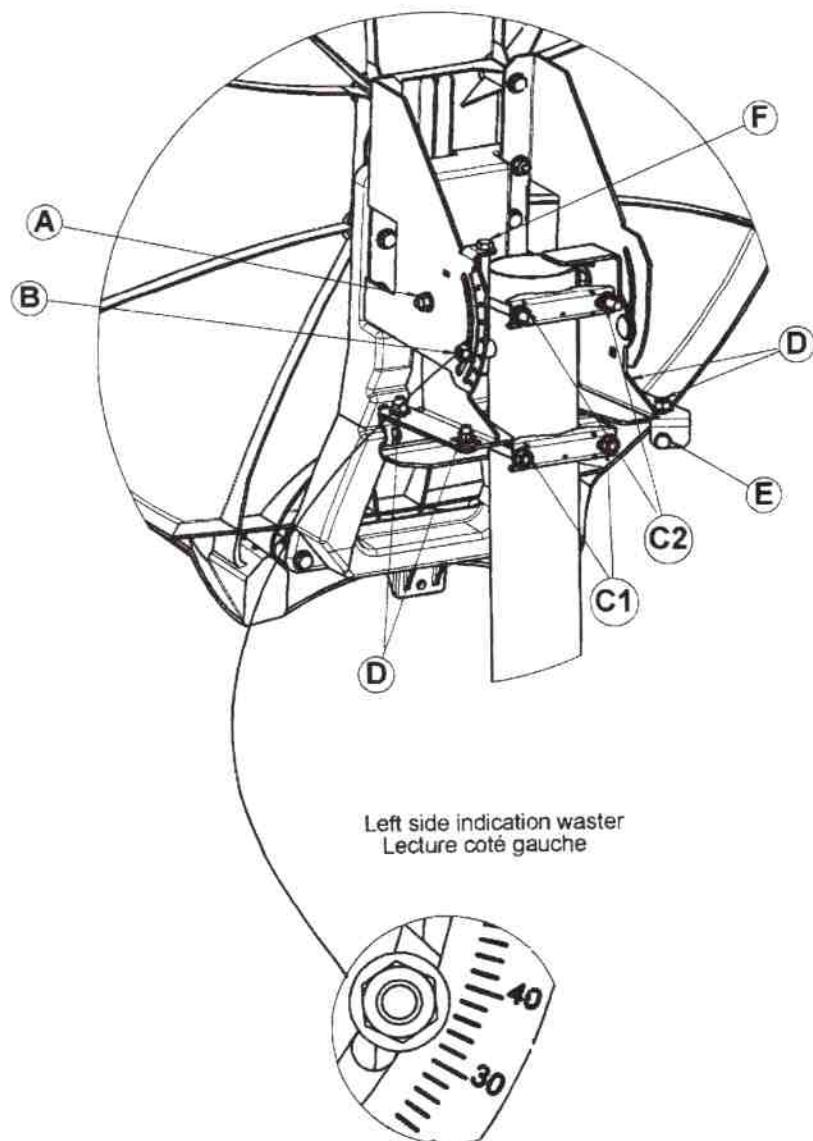

Fig 7
En actionnant la vis F, amener la graduation correspondant à l'élévation recherchée face au centre de l'écrou B puis resserrer modérément les 4 écrous A et B comme indiqué Fig 7.
Actuate screw F in order to move the antenna elevation upwards so that one reaches the elevation marking as indicated by the center of the nut B and tighten the 4 screws as shown in **figure 7**.
- Débloquer les écrous **C1** (bride inférieure) et **C2** (bride supérieure) pour faire tourner l'ensemble autour du mât. (**Cf Fig 7**)
- **Unlock the 4 screws C1 (lower clamp) and C2 (higher clamp) in order to move in azimuth the whole antenna around the mounting pipe.(refer to Fig 7)**
Ces réglages sont accessibles sur la monture Az / El comme le montre la Figure 7.
*To complete the antenna alignment procedure, you need to, alternatingly, fine adjust the Azimut and Elevation setting in order to reach the maximum signal level. For this purpose, use the fine adjustment systems as described in figure 7.*